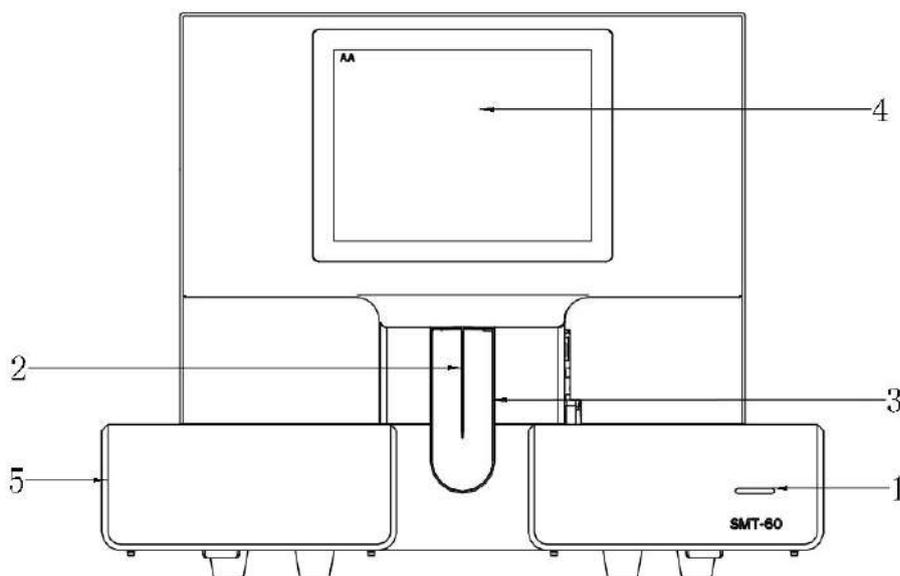

Figure 3-1 Front view of analyzer
3. The aspirate key of the analyzer (see Figure 3-1 Front view of the analyzer) shall be wiped with alcohol (75%) regularly.